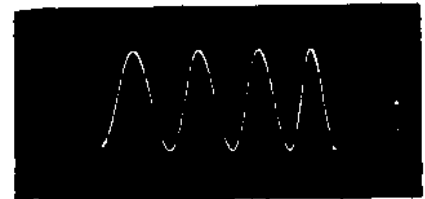

Figure 30
- ( ) Set the SYNC. SELECTOR switch to the +INT. position, the HOR. GAIN control to 30, the VERT. INPUT switch to X10 and the VERT. GAIN control to 100. Now set the HOR./FREQ. SELECTOR to the line between 10 and 100 and adjust the FREQ. VERNIER to obtain a pattern consisting of four complete sine waves similar to that shown in Figure 30. This check indicates that the sweep generator is operating normally at a frequency of 60/4 or 15 cycles per second. See NOTES ON THE OPERATION OF THE OSCILLOSCOPE for operation of the SYNC. AMPLITUDE control. Reduce the HOR. GAIN setting if necessary.